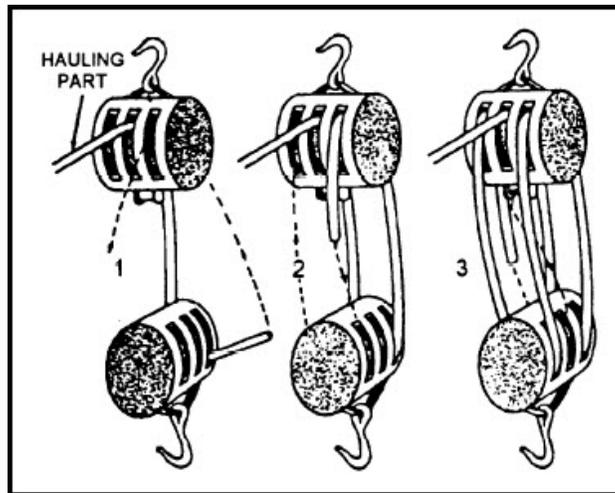

Figure 8-9 Reeving a threefold purchase
- **THREEFOLD PURCHASE:** The right-angle method of reeving a threefold purchase is shown in figure 8-9. This method of reeving is considered the best for this purchase, as it reduces the chances of the various parts of lines chafing each other.